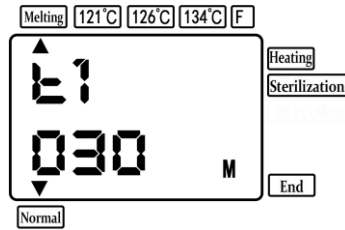

Fig. 14
④ Melting time setting: You can refer to the operation steps in section ② (Set sterilization time) (**Fig.14**). After setting, press the "Setting" key to save the modification.